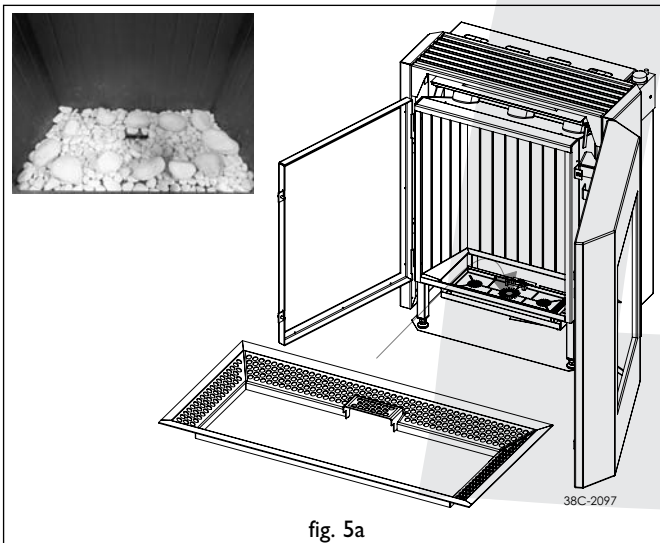

fig. 5b
- Fill the burner tray with vermiculite; equally spread the vermiculite, see Photo (fig. 5b).